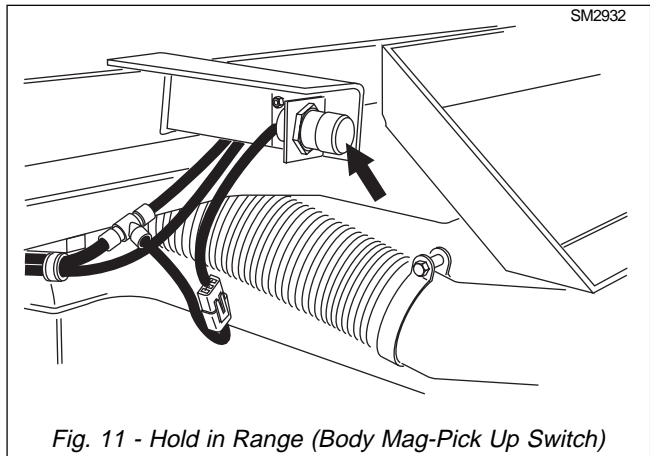

Fig. 11 - Hold in Range (Body Mag-Pick Up Switch)
3. Hold in Range - This is a body raise function. The ECU prevents any up-shifts when the body is raised while in a forward gear. The ECU receives a signal from the body up magnetic switch. (Ref. Fig. 11)